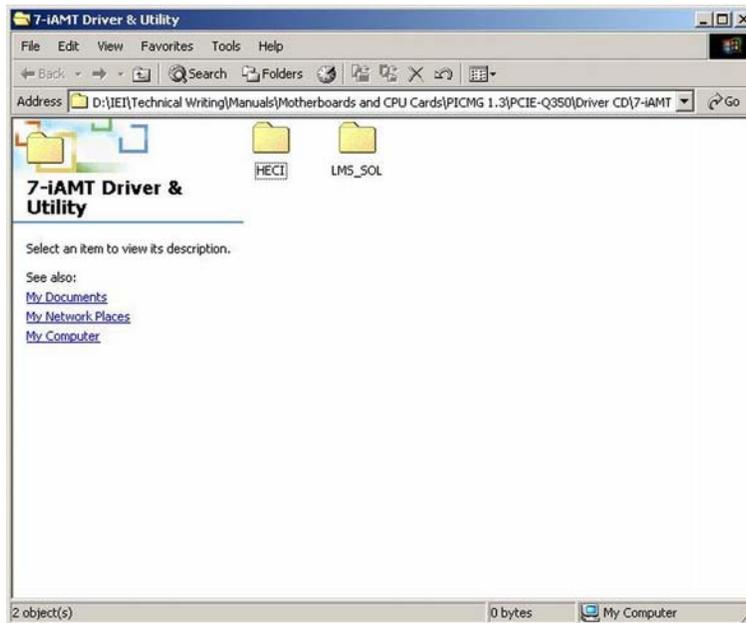

Figure 6-35: Intel® AMT Driver Directory
Step 2: The screen in **Figure 6-35** appears.